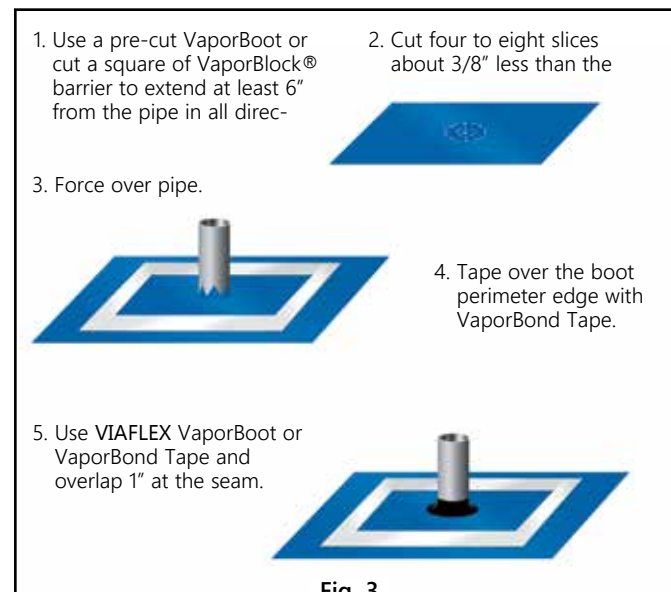

Fig. 3
- 1.4. Seal around all plumbing, conduit, support columns or other penetrations that come through the VaporBlock® membrane. The VIAFLEX VaporBoot Pipe Boot System is the recommended sealing method. (Includes 25 pre-cut VaporBlock® pipe boots along with 1 roll of VaporBoot Tape). (Fig. 3 & 4)
Pipe boots may also be fabricated from excess VaporBlock® membrane (Fig. 3 & 4) and sealed with VaporBoot Tape or VaporBond Tape (sold separately).
To fabricate pipe boots from VaporBlock® excess material (see Fig. 3 & 4 for A-E):
- E) Complete the process by taping over the boot perimeter edge with VaporBond Tape to create a monolithic membrane between the surface of the slab and moisture sources below and at the slab perimeter. (Fig. 3 & 4)